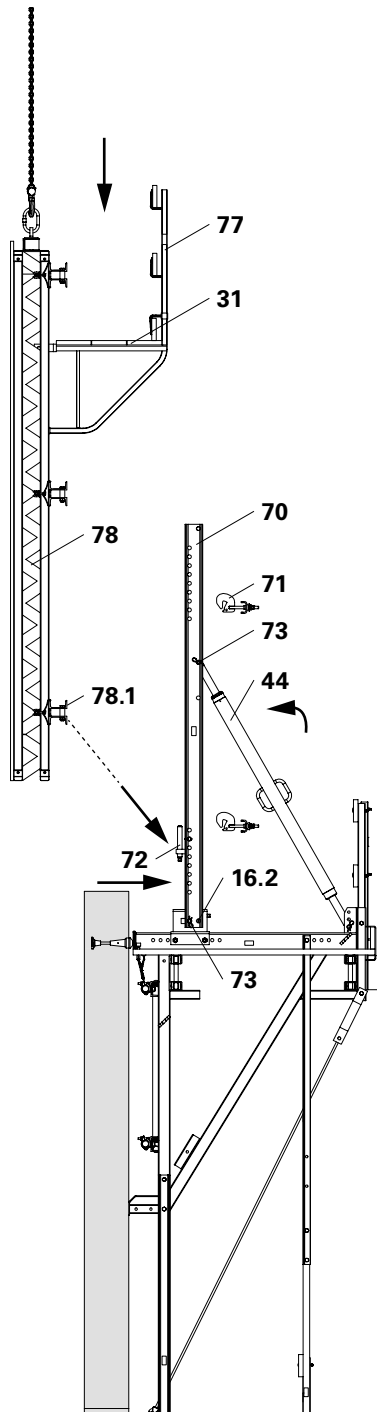

Fig. B2.07
4. Check that the Height Adjusting Unit CB, SCS (72) is in the correct position and adjust if necessary.
5. Lower formwork (78) with the bottom waler (78.1) onto the Height Adjusting Unit CB, SCS. Lifting gear remains tensioned.
6. Mount Waler Fixation U100 – U120 (71) on the walers. (Fig. B2.07)